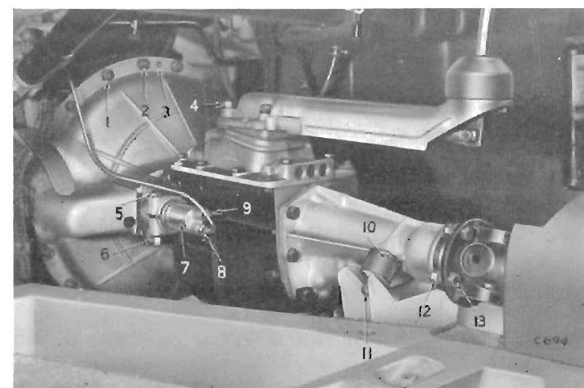

Fig. 18. Left-hand side of gearbox
- Rear engine mountings (10), Fig. 18.